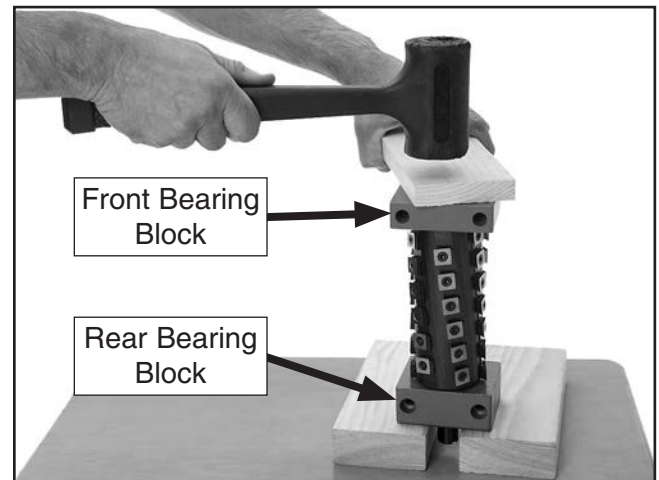

**Figure 6.** Disassembled cutterhead assembly.
11. Remove front bearing block and bearing from cutterhead—if it has not already dropped off. **Figure 6** shows disassembled components.